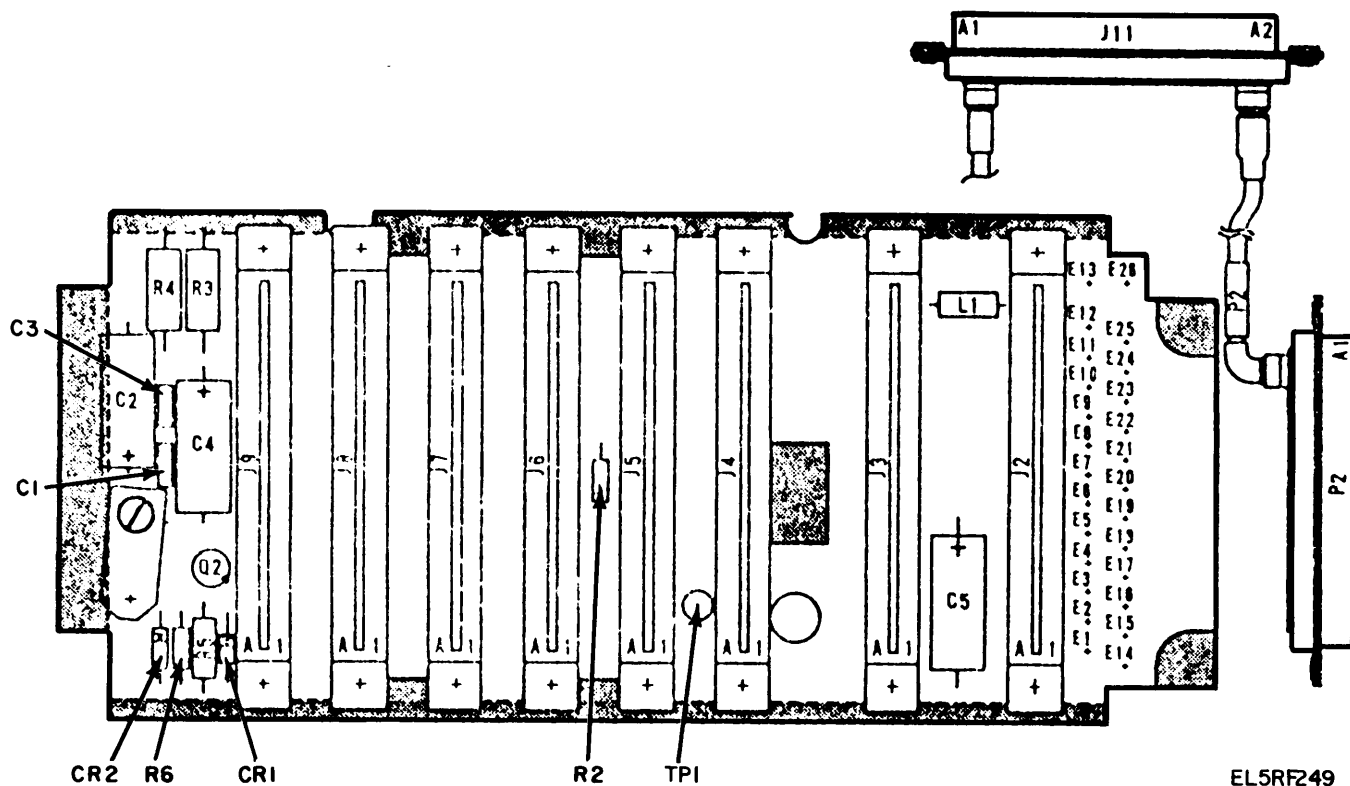

Figure 3-98. Interconnecting Box 1RE1A2A11 or 5TR1A2A11.
(2) Interconnecting box 1RE1A2A11 or 5TR1A2A11 (fig 3-98). Remove all plug-in circuit boards and set test facility switch S17 to ON. Check the voltages between the following test points.